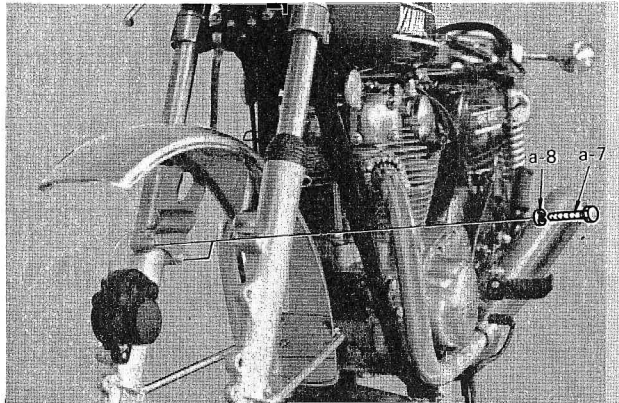

Fig. 8
4. Insert the front fender between the front forks from the rear, and secure the front fender using 8 mm. bolts (a-7) and spring washers (a-8), four each. (Fig. 8)